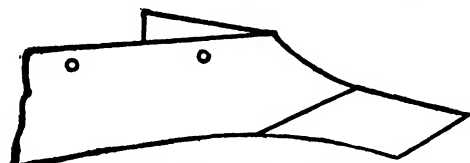

Fig. 82. Point bent over and ready for final weld.
10. While the point is still a bright red turn it upside down on the face of the anvil and have the helper hold the sledge on the end of the share directly over the anvil, and with a hammer bend the end of the point over the edge of the anvil. Make this bend a distance from the point of the share that will give the point the desired additional length. After making a right angle bend, flux the top of the share and bend the point down flat on the share. Hammer on the top of the new point until it lies flat on the share and its edge coincides exactly with the edge of the bar. Fig. 82.